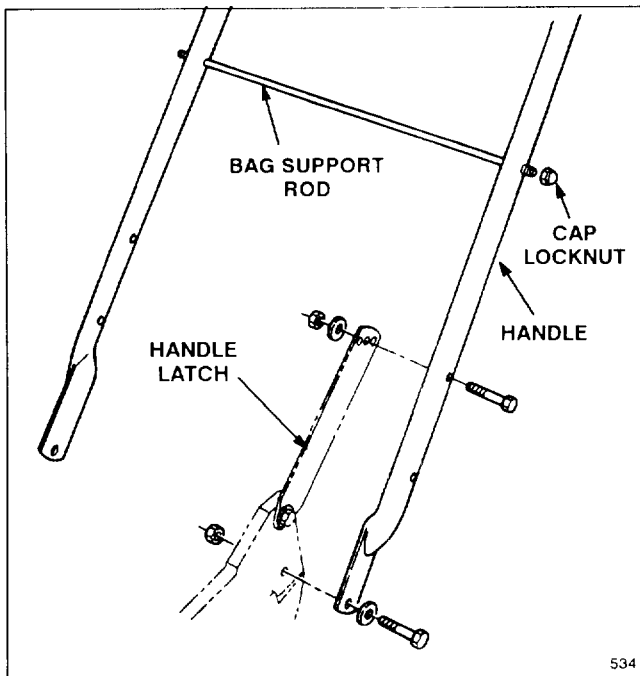

Figure 1
INSTALL HANDLE (Fig. 1)
- Slide bag support rod thru **top** mounting holes in handle and secure each end with a cap locknut (Fig. 1).